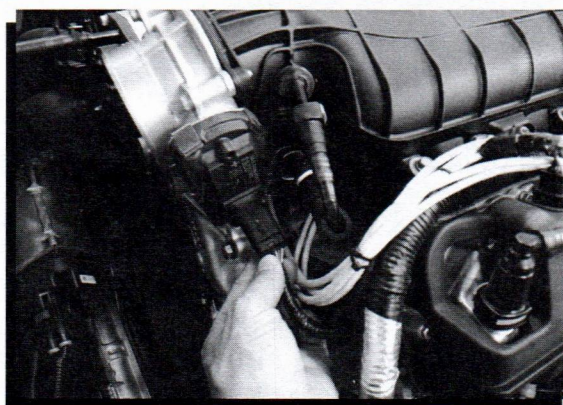
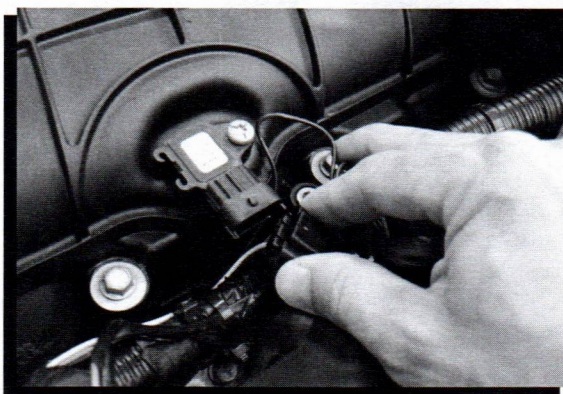

Figure 2 Disconnect the ETC.
Figure 5 Disconnect the MAP Sensor.
2. Disconnect the Electronic Throttle Control (ETC) connector and MAP Sensor (Figure 2, Figure 5).